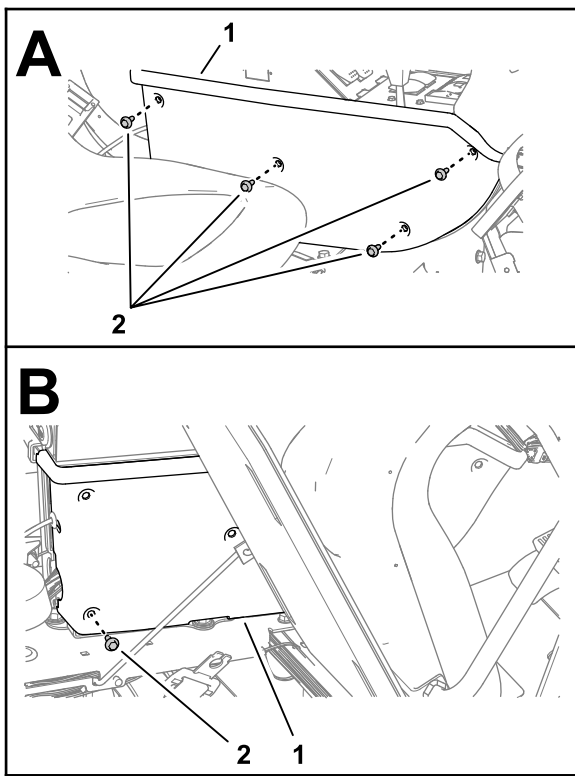

Figure 64
3. Assemble the side panel to the console frame (Figure 64) with 4 flange-head capscREWS (1/4 x 3/4 inch).
4. Tilt the seat forward and install the lower rear flange-head capscrew (Figure 64).